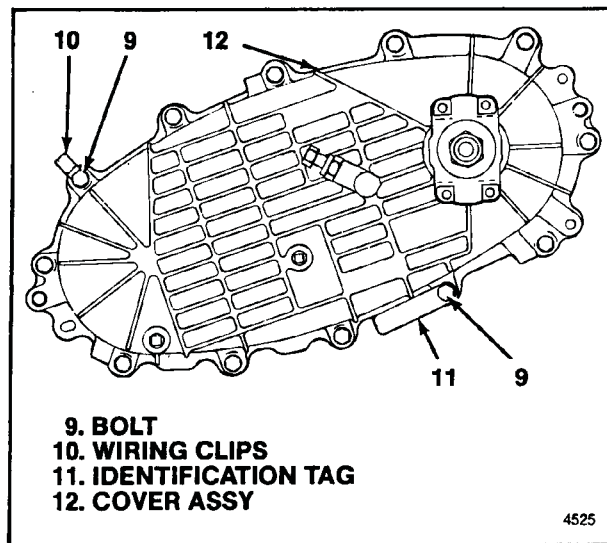

Figure 5-17. Wiring Clip and Identification Tag Locations
- d. Install twelve bolts (9) positioning identification tag (11) and wiring clip (10) under bolt heads at locations shown in figure 5-17. Torque bolts to 40-45 lb-ft (54.2-61.0 Nm).